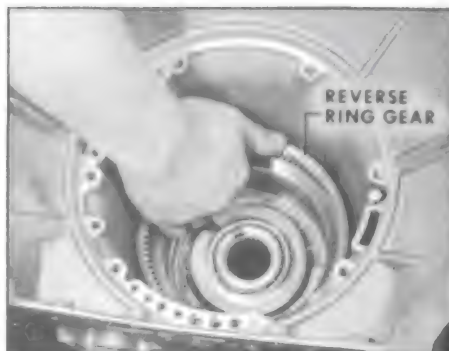

Figure 5-307
2. Install reverse ring gear into case. Rock and turn ring gear to pick up clutch plate splines. See Figure 5-307.